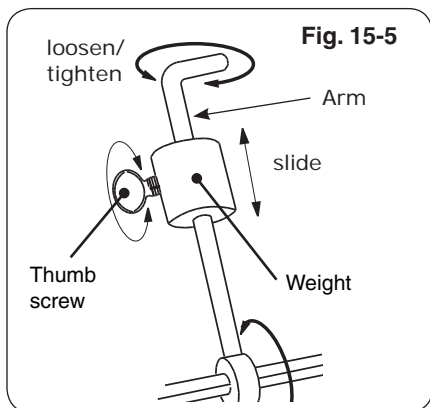
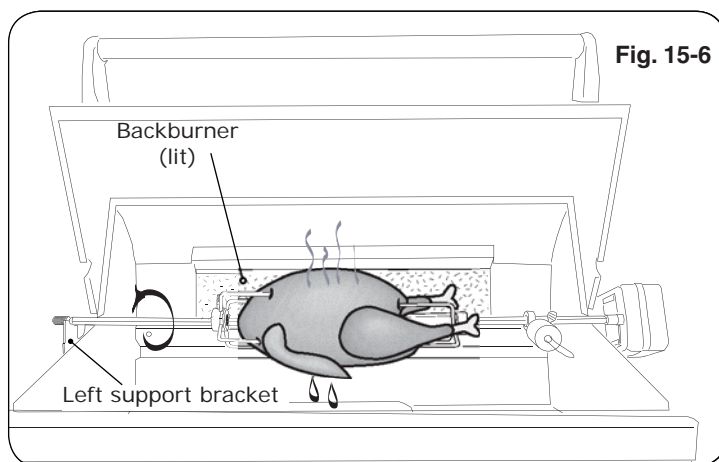

Fig. 15-5
Fig. 15-6
9. Slide the counterbalance weight up or down the arm until the rod rotates most evenly then tighten thumb screw (Fig. 15-5 and Fig. 15-6).